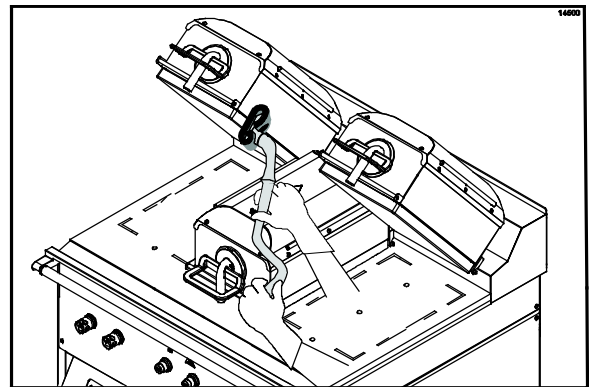

Figure 101
29. Scrub the inner edges of the right and left platens. (See Figure 101.)